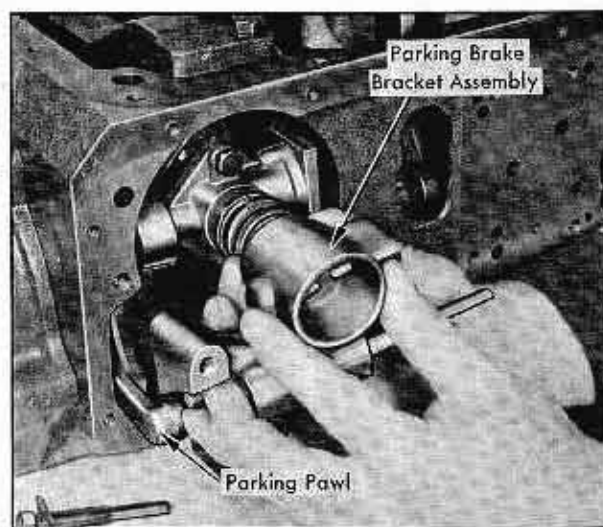

Fig. 14-18 Removing Governor Sleeve
4. Pull governor sleeve off, being careful not to tilt it because oil rings would twist and be damaged. Do not lose roller for the parking bracket crank. Fig. 14-18.